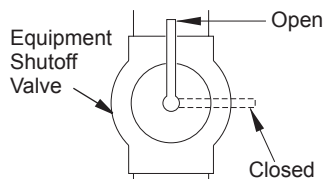

Figure 14 - Equipment Shutoff Valve
1. Close equipment shutoff valve (see Figure 14).
1. Open equipment shutoff valve (see Figure 14, page 15).